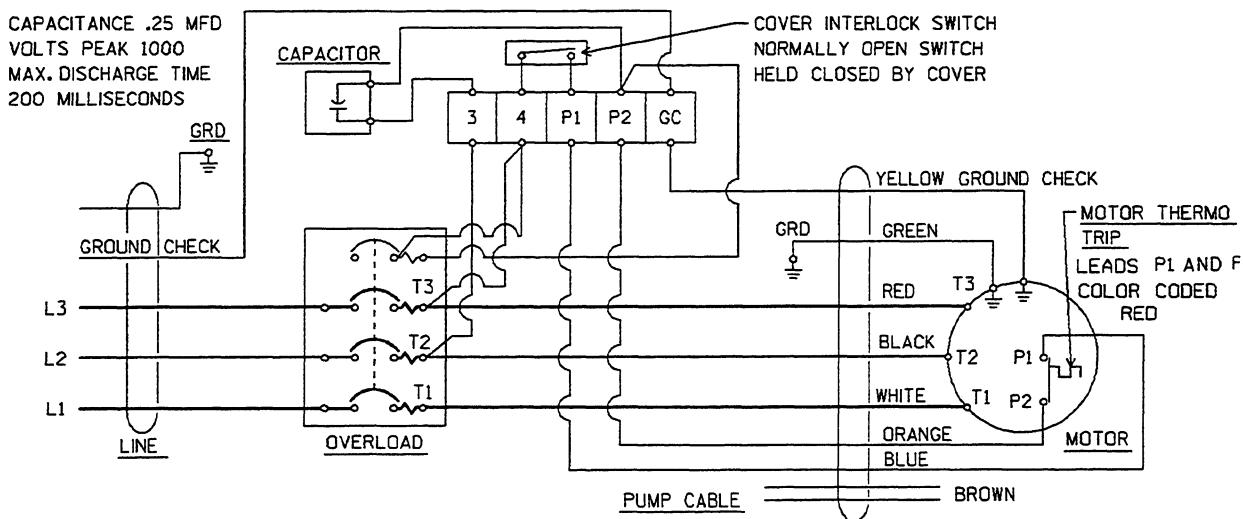

Figure C-7. Pump Power Cable Connection Diagram (All Models)
Install a new O-ring (22) on the terminal housing. Refer to Figure C-7 and connect the correct power cable leads to the stator leads with the connectors (23). **Be sure** the orange and blue cable leads are connected to the red coded (thermal overload) stator leads. After installing the connectors, wrap each connection with underwater tape (G-R part number 18666-068) to seal it and prevent the connector from working loose. Start the tape between the connectors and double back, then stretch the tape and wrap it around all of the leads and connectors.